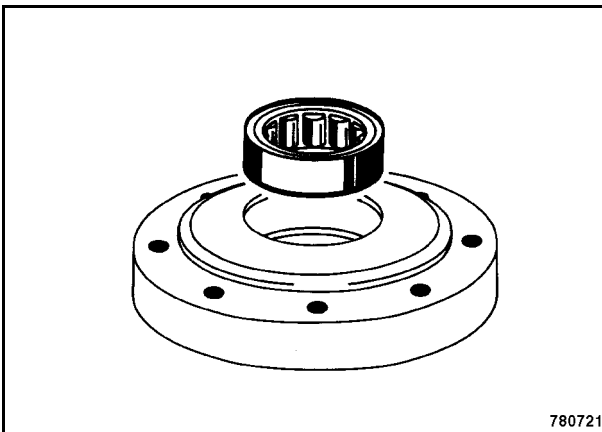

Fig. 19
29. Knock the cylinder roller bearing (Fig. 19) out of the bearing housing.